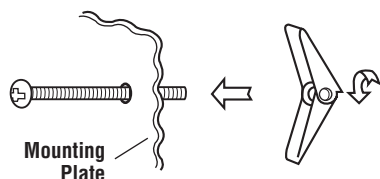

Figure 18
1. Separate 4 Toggle Bolts ②, packed in the INSTALLATION HARDWARE, from the Toggle Nuts.
2. Use Wood Screws 1to attach Mounting Plate to the stud or studs. Use Toggle Bolts to attach Mounting Plate through the holes at A, B, C and D; UNLESS THOSE HOLES ARE LOCATED ON THE STUD. Insert one Toggle Bolt into A, B, C and D where appropriate (these correspond to the holes of the Wall Template) and put the Toggle Nuts onto the Toggle Bolts. Figure 18. Refer to instructions in Wall Template.